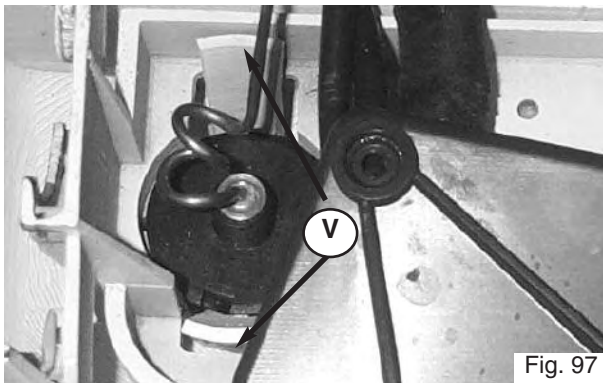

Fig. 97
2. Remove the pressure gauge by releasing the two clips **V** and pulling the pressure gauge out. (see Fig. 97)